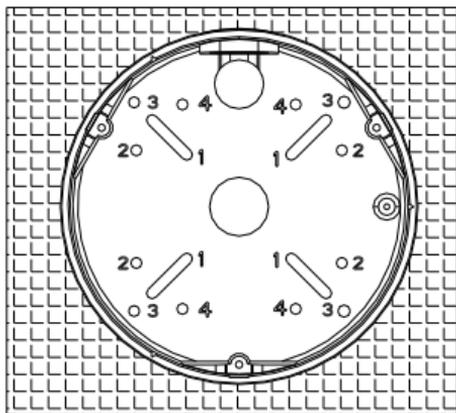

Figure 2-4 Securing Back box
5. Secure the back box with the supplied screws as shown in Figure 2-4.